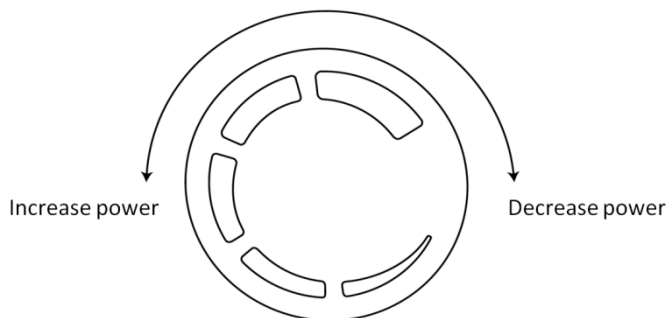

Fig. 2
3. Turn the gas valve on the heater counter-clockwise to the maximum power position and push it (Fig. 2).